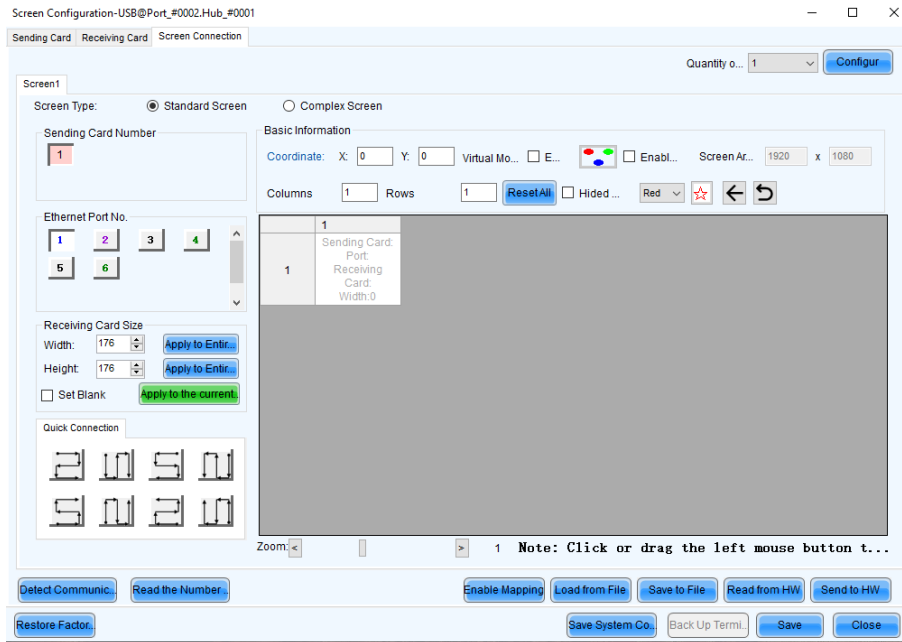

Figure 74: Start Screen – Screen Connection (Default View) before Configuration
Step 6) Switch from **Sending Card** tab to **Screen Connection** tab (see Figure 74).
Step 7) Click the **Load from file** button (see Figure 74).